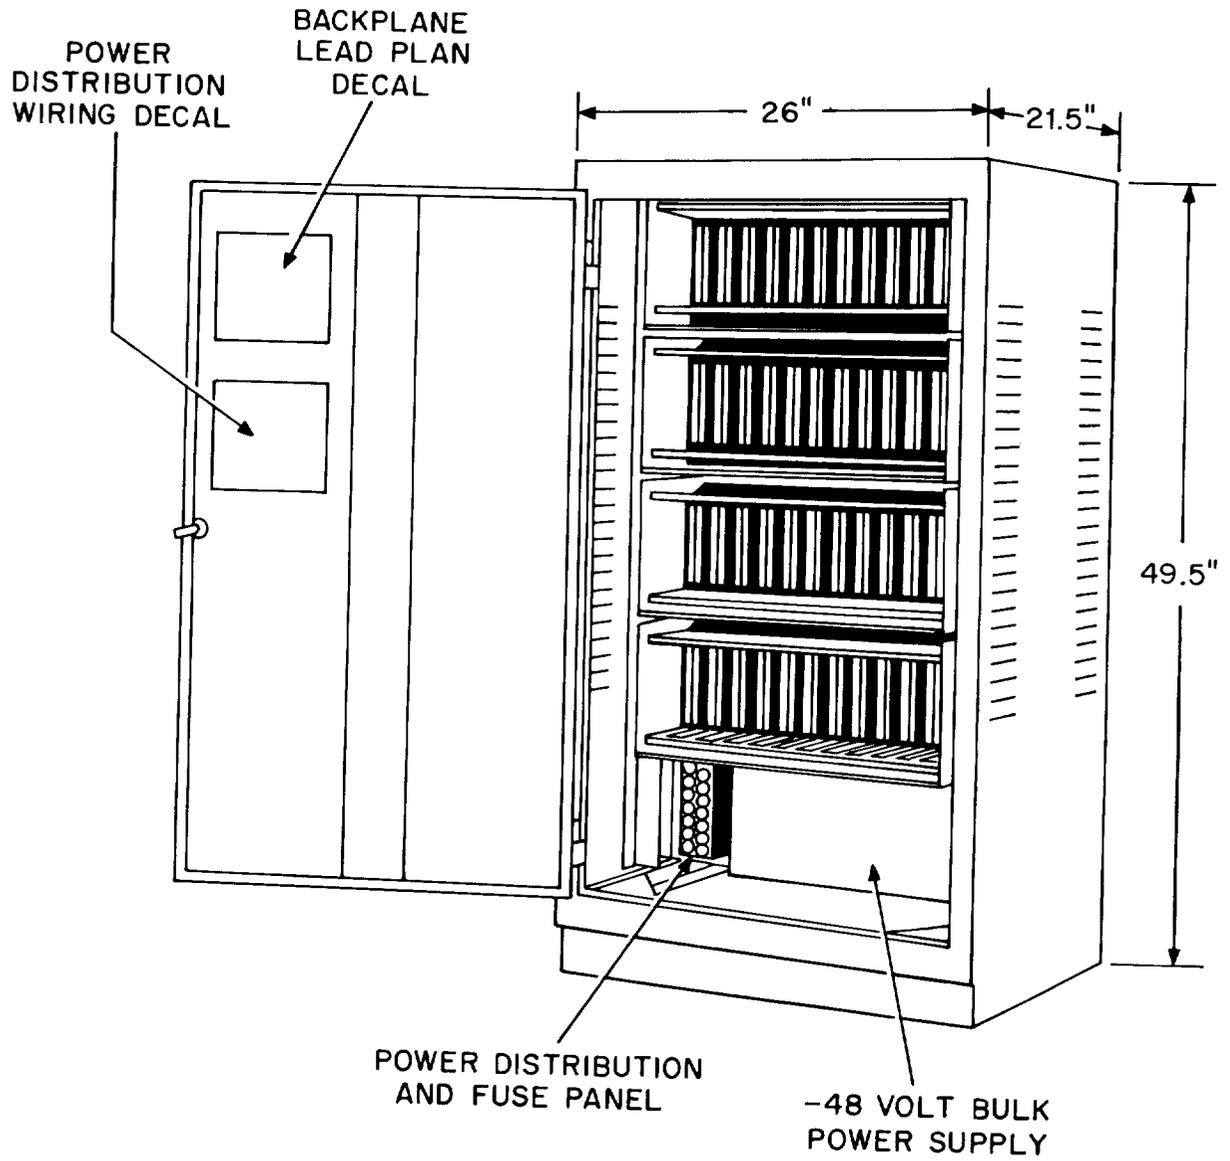

Fig. 1—146R 48-Circuit Mounting Cabinet
3.01 The 146R 48-circuit mounting cabinet shown in Fig. 1 contains four 12-circuit mounting shelves, a -48 volt 6-ampere dc power supply with fuse panel, and a 5-outlet ac power strip. The cabinet is equipped with lockable doors on the front and rear for equipment security while also providing easy access to the mounting shelves. The doors can be removed, if desired, by lifting the door to free the hinge from the hinge-pin.